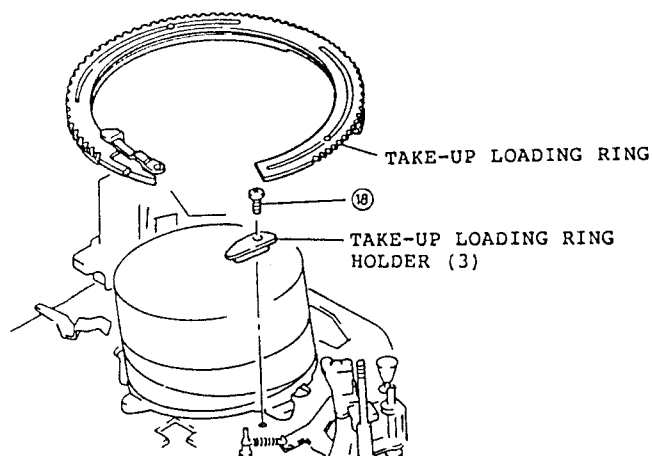

Fig. 2-90
19. Remove one (1) screw holding the take-up loading ring holder (3). (See Fig. 2-90)